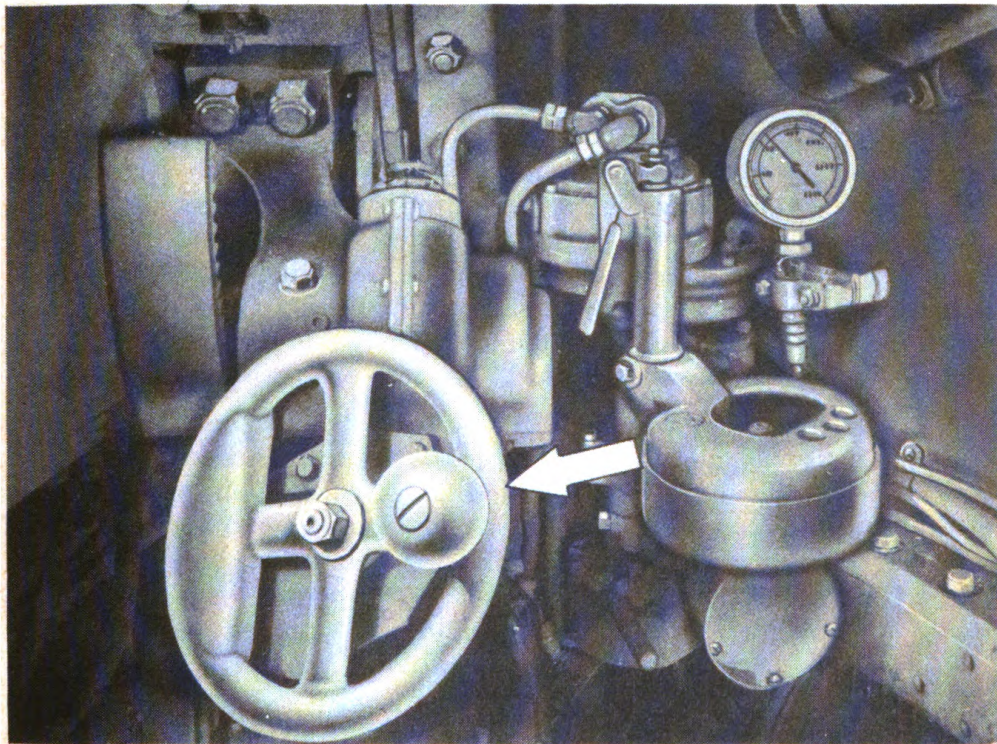

Figure 9—Gun elevating handwheel.
(9) *Gun elevating handwheel* (fig. 9). The E7R1 mechanized flame thrower gun and coaxial machine gun are elevated or depressed simultaneously by means of a manually operated gear mechanism similar to that in unmodified medium tank with 75-mm. gun. This handwheel is located in front of the gunner and is operated by the gunner's left hand. A special elevating gear adaptor has been added to increase the gear ratio to permit more rapid elevation and depression. To elevate the guns, rotate handwheel counterclockwise. To depress guns, rotate wheel clockwise.